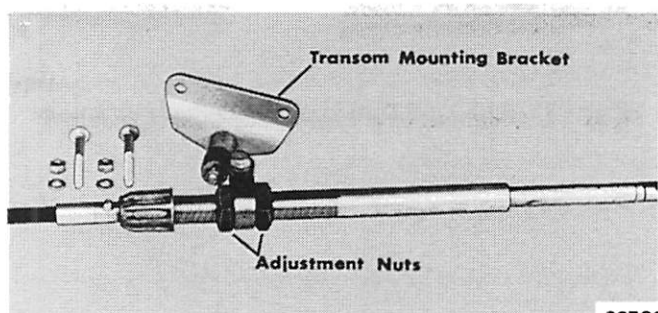

Figure 1. Transom Attachment
2. Locate transom bracket by centering engine, centering steering wheel and positioning transom bracket on transom. (Figures 1 and 2)